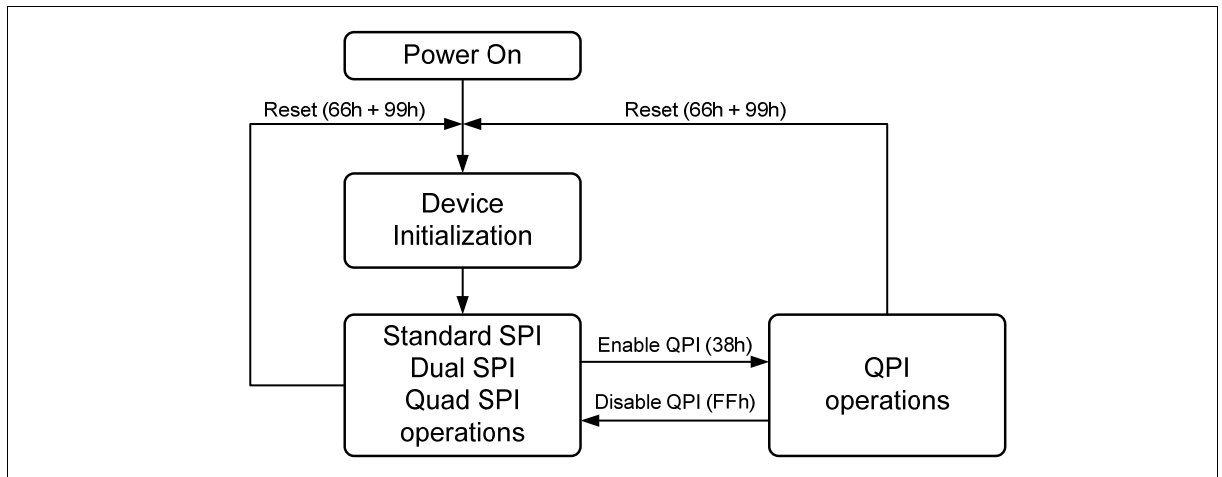

Figure 2 FM25Q32 Serial Flash Memory Operation Diagram
The FM25Q32 supports Quad Peripheral Interface (QPI) operations only when the device is switched from Standard/Dual/Quad SPI mode to QPI mode using the “Enable QPI (38h)” instruction. The typical SPI protocol requires that the byte-long instruction code being shifted into the device only via DI pin in eight serial clocks. The QPI mode utilizes all four DQ pins to input the instruction code, thus only two serial clocks are required. This can significantly reduce the SPI instruction overhead and improve system performance in an XIP environment. Standard/Dual/Quad SPI mode and QPI mode are exclusive. Only one mode can be active at any given time. “Enable QPI (38h)” and “Disable QPI (FFh)” instructions are used to switch between these two modes. Upon power-up or after a software reset using “Reset (99h)” instruction, the default state of the device is Standard/Dual/Quad SPI mode. To enable QPI mode, the non-volatile Quad Enable bit (QE) in Status Register-2 is required to be set. When using QPI instructions, the DI and DO pins become bidirectional DQ_0 and DQ_1 , and the WP# and HOLD# pins become DQ_2 and DQ_3 respectively. See Figure 2 for the device operation modes.